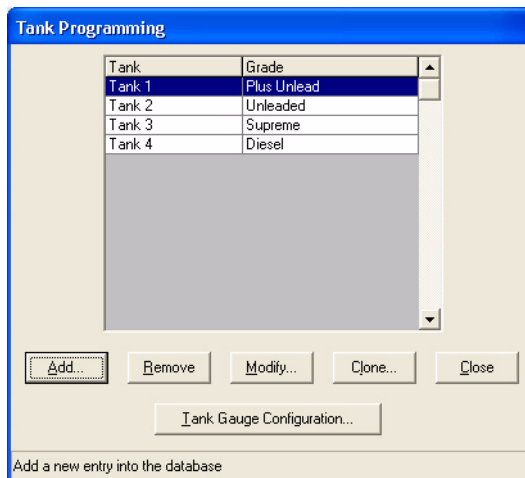

Figure 7-8 Tank Programming Window
Access this window by selecting **System > Tank**. See Figure 7-8.
1. Select **Modify** from the tank programming window and choose which tank gauge number to assign to the tank/grade being programmed. See Figure 7-8.